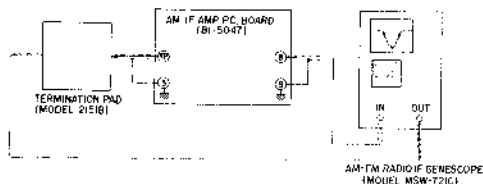

Fig. 12
8. AM IF CIRCUIT ADJUSTMENT (See Figs. 12 and 13)